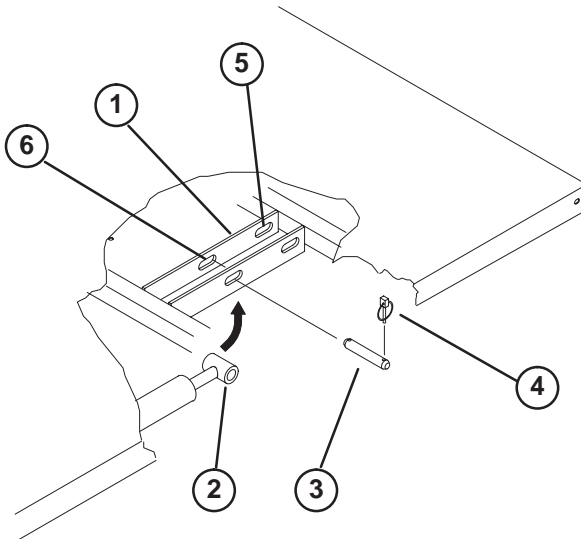

Figure 7
2. Remove lynch pins from outer ends of cylinder rod clevis pins (Fig. 7).